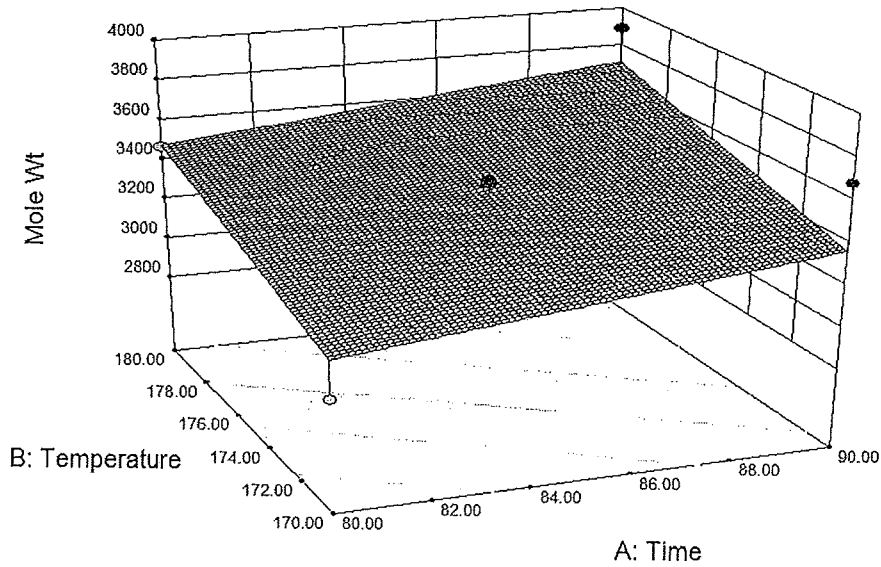

Figure 10 : 3D Surface For Molecular Weight
- (ii) By using Figure 10 we can identify the local optimum results. Provide simple solution as a discussion of the molecular weight response for this experiment.